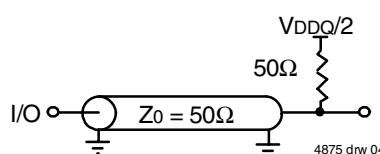

Figure 1. AC Test Load
| AC Test Load | See Figure 1 |
4. These parameters are guaranteed with the AC load (Figure 1) by device characterization. They are not production tested.